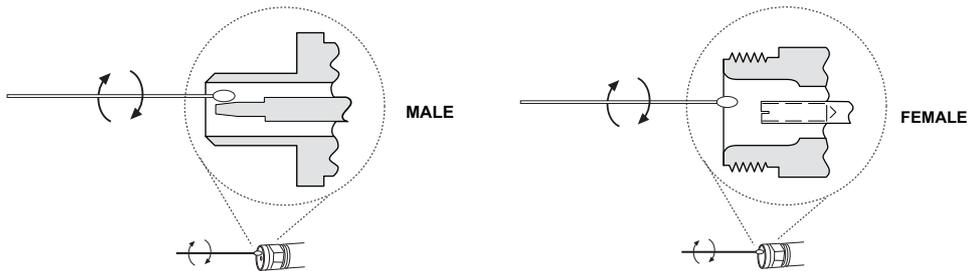

Figure 1-4. Cleaning Technique Using Cotton Swabs
3. Clean mating plane surfaces using alcohol on cotton swabs (Figure 1-4).